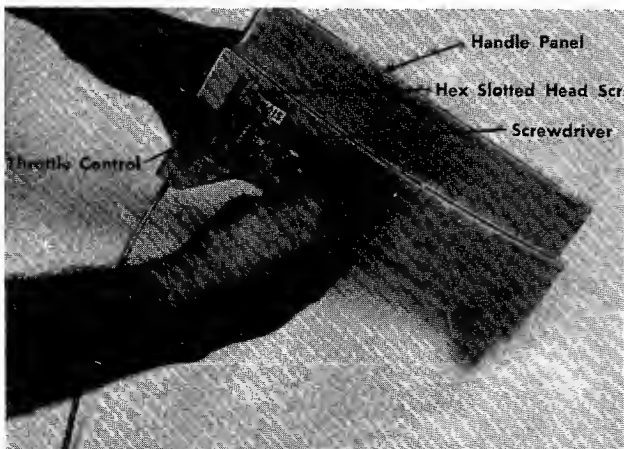

FIGURE 3. THROTTLE ASSEMBLY
1. Place the throttle control in handle panel and secure with two hex slotted head screws. See figure 3.